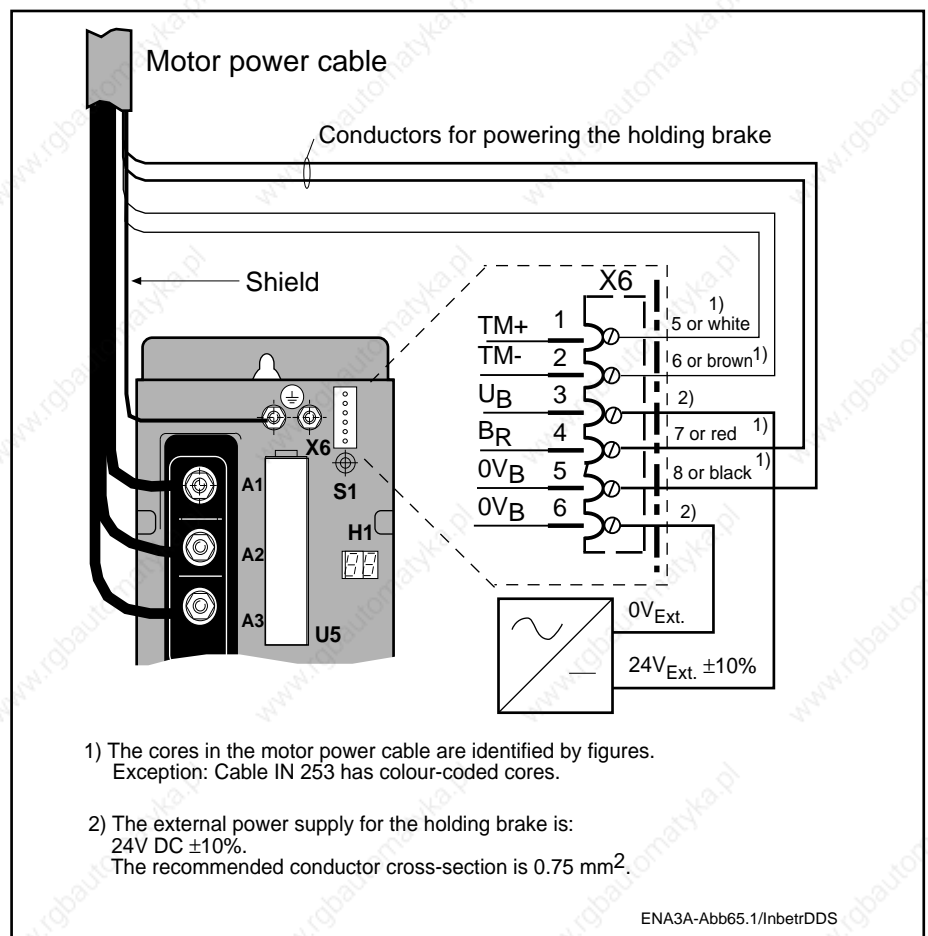
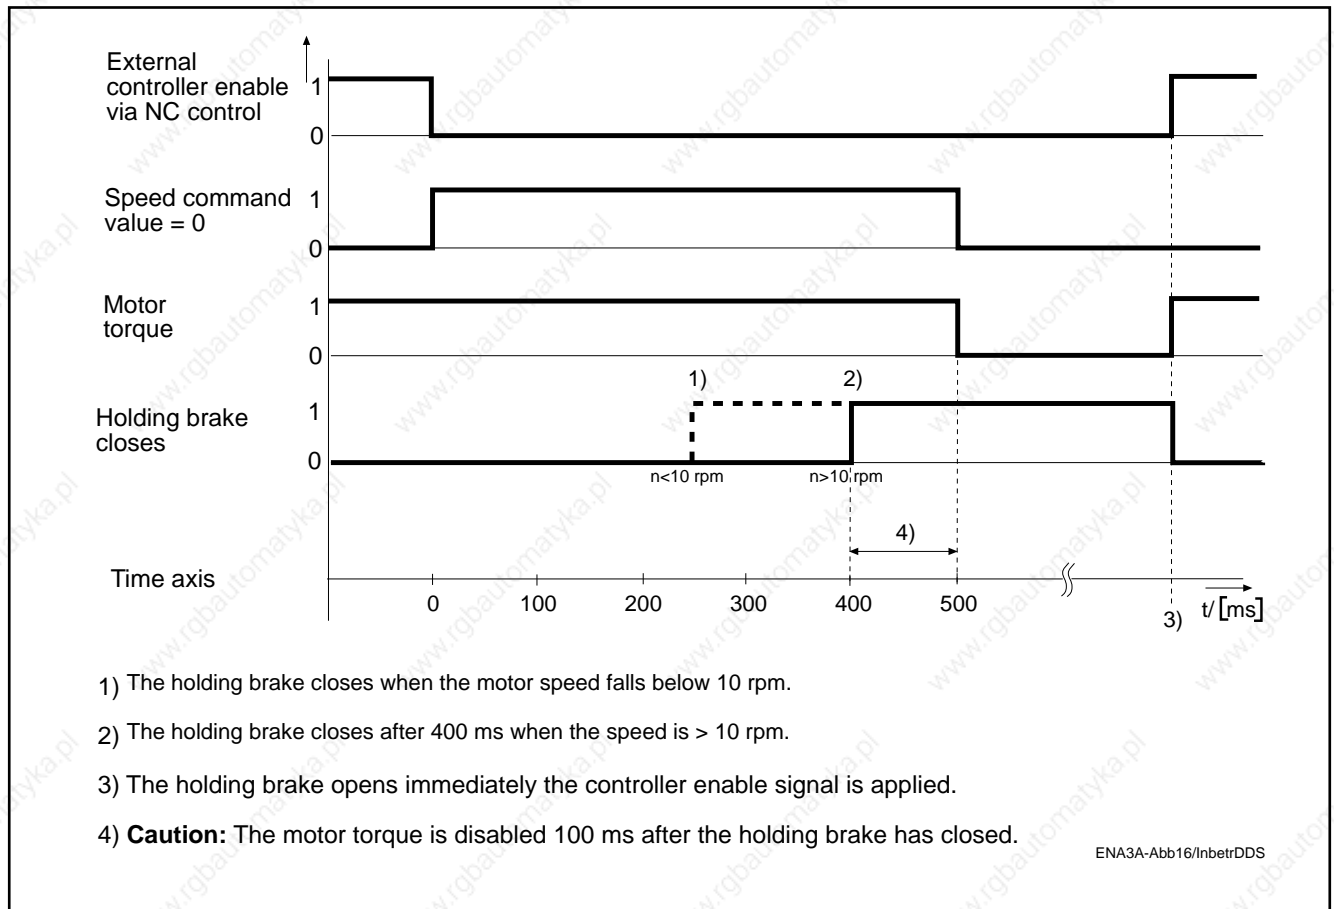
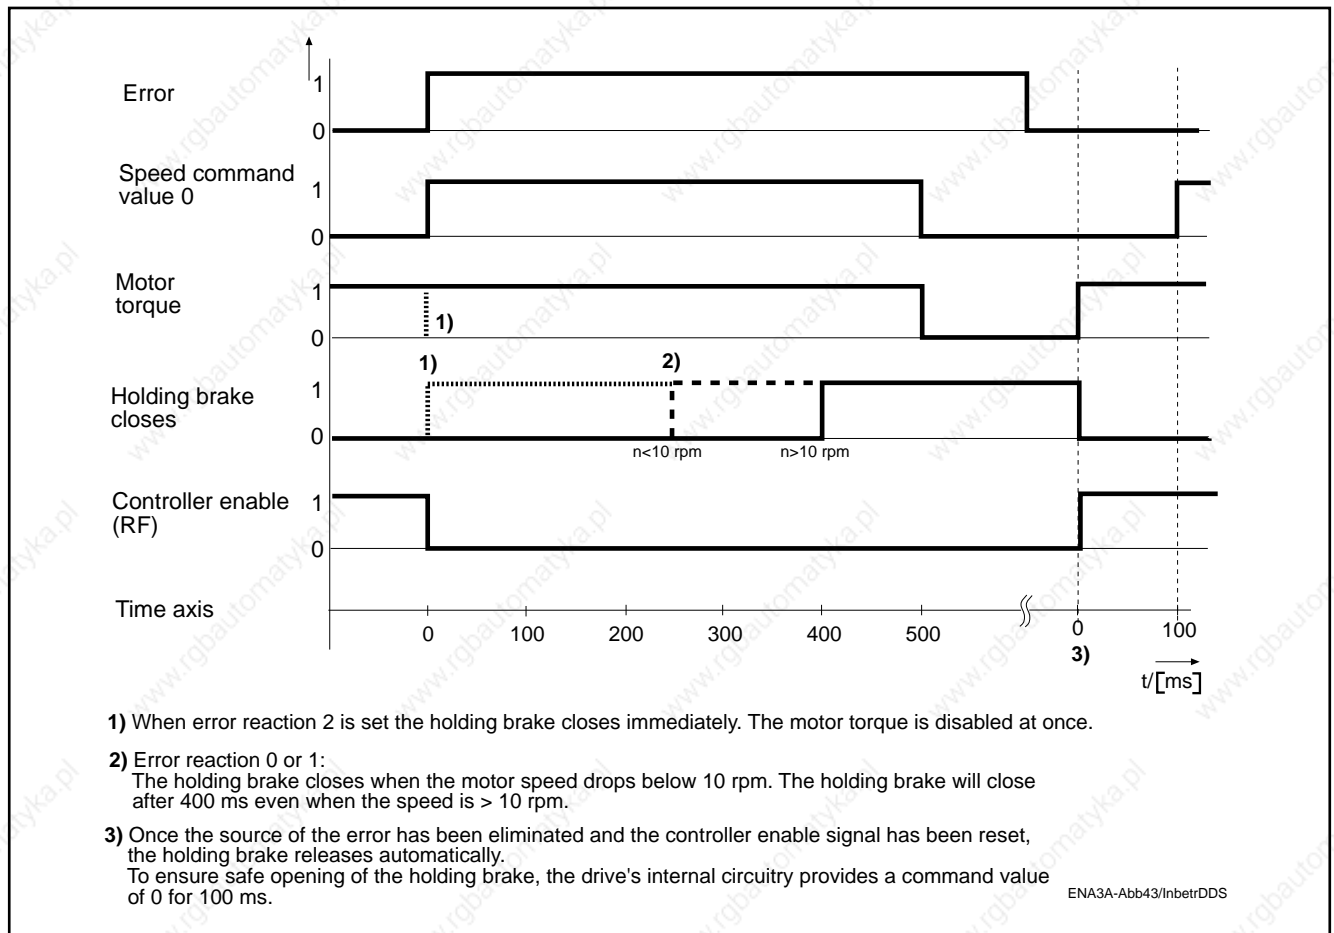

Fig. 64: Connecting up the holding brake to terminal block X6
Fig. 65: Time sequence of holding brake status corresponding to controller enable status
Fig. 66: Reaction of the holding brake under different error reactions.
When the holding brake is de-energized a force acts on the braking/armature disc of the servo motor, thus safely immobilizing the axis. The holding brake is activated by the drive controller according to the status of the controller enable signal (see Fig. 65) and the preset error reaction (see Fig. 66). To power up the holding brake, apply an DC voltage from an external source to the terminal block X6 on the drive controller (see Fig. 64).
**Procedure:** (see Fig. 64)
7. Reconnect the cores to X6 as shown in Fig. 64.